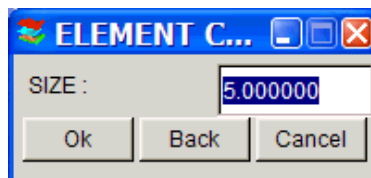

Figure 5.3.13 Element Type
- Enter the size or number of elements to be created, and then press OK. See Figure 5.3.13.